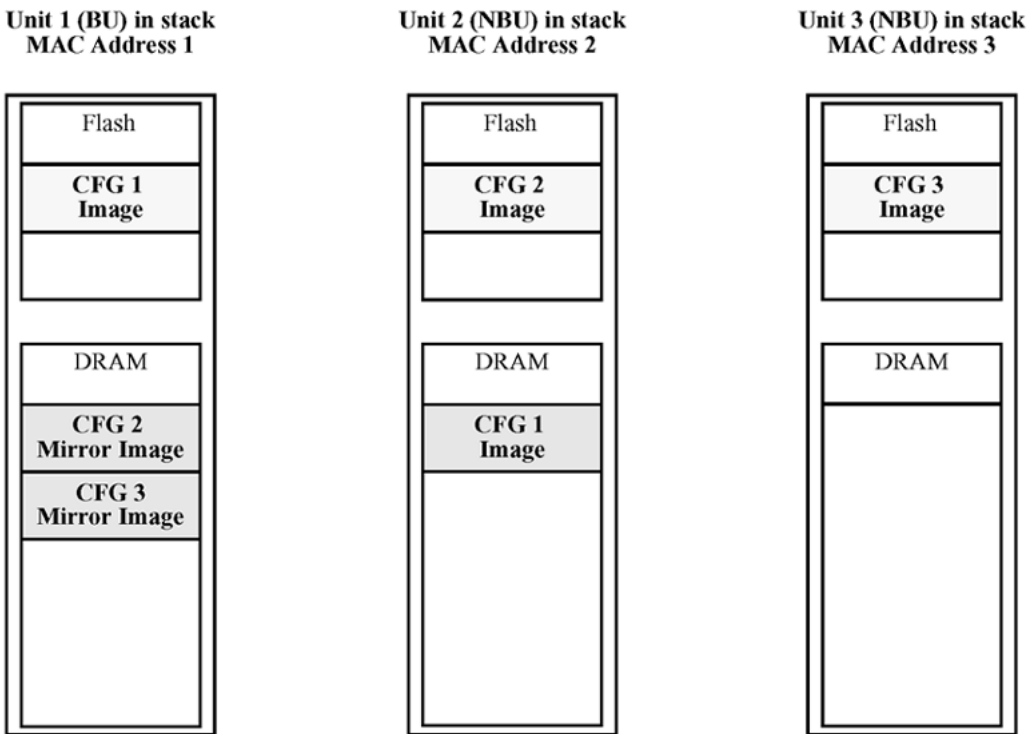

Figure 1: CFG mirror process in stack
After a power cycle, all the CFG images in a stack are mirrored. Figure 1: CFG mirror process in stack on page 33 illustrates the CFG mirror images in a three-unit stack after the stack is powered on. Unit 1 is the Base Unit (BU) and all other units are Non-Base Units (NBU).
- Unit 1 (BU) contains mirror images for unit 2 (CFG 2) and unit 3 (CFG 3).